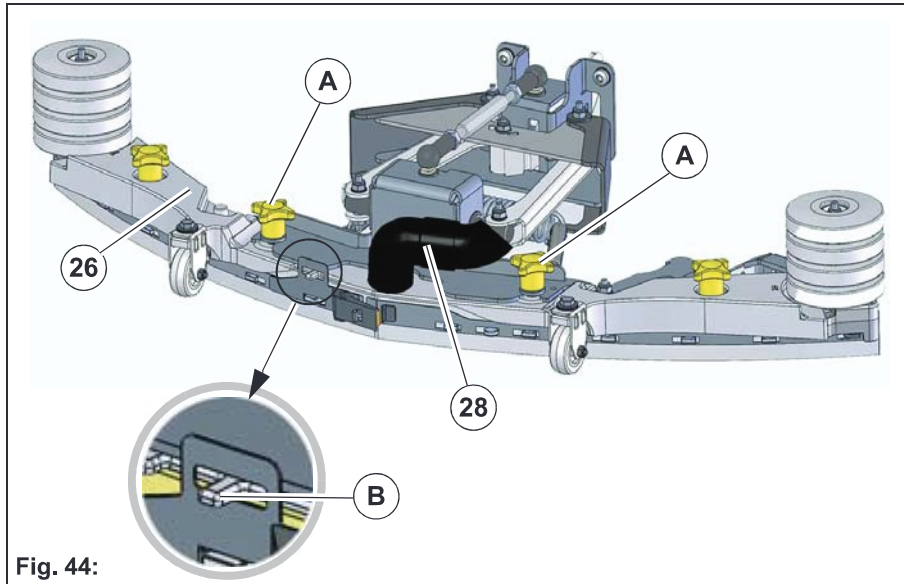
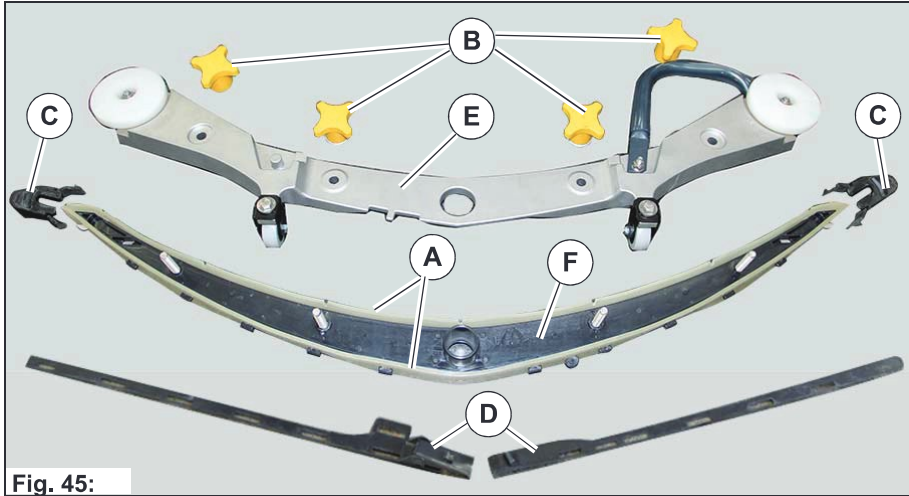

Fig. 44:
Fig. 45:
1. Pull out the suction hose **Fig. 44-28**, loosen the two star-shaped handles **Fig. 44-A** and remove the squeegee.
Check the sealing strips **Fig. 45-A** at the squeegee weekly for wear and intactness. If the used sealing edge of the sealing strip is worn or damaged, turn or replace the sealing strip. Each sealing strip can be used four times before it needs replacing.
2. Loosen the star-shaped handles **Fig. 44-B** and remove the squeegee.
3. Press together the protective caps **Fig. 45-C** and pull them out.
4. Loosen the clamping band **Fig. 45-D** and remove it from the catch **Fig. 44-B**.
5. Pull out the aluminium body **Fig. 45-E** from the top.
6. Remove the sealing strips **Fig. 45-A** from the plastic body **Fig. 45-F**.